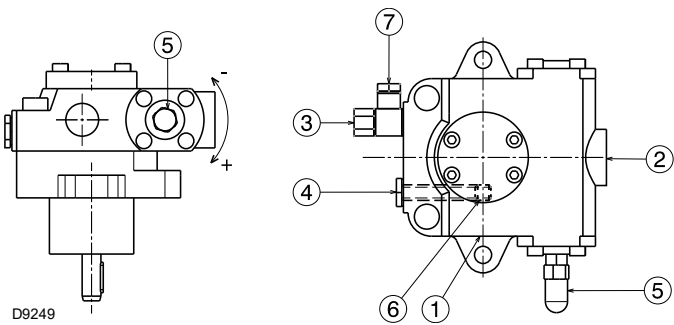

Fig. 22
They are installed on the burner with the by-pass closed by screw 6)(Fig. 22 on page 26).
- In order for the pump (Fig. 22) to self-prime, it is vital that the screw 4) of the pump be loosened to vent the air contained in the suction line.
Key (Fig. 22)
The a.m. operation is possible because the pump is already full of fuel when it leaves the factory. If the pump has been drained, fill it with fuel through the opening on the vacuumeter 4)(Fig. 22 on page 26) prior to starting; otherwise, the pump will seize.